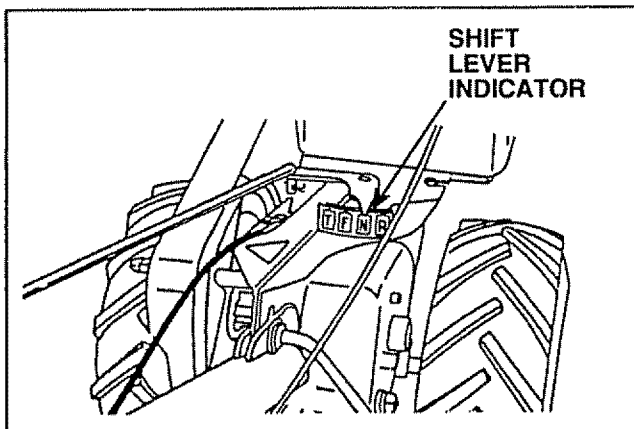

FIGURE 14
- Place Shift Lever Indicator (Fig. 14) in "F" position for transporting.